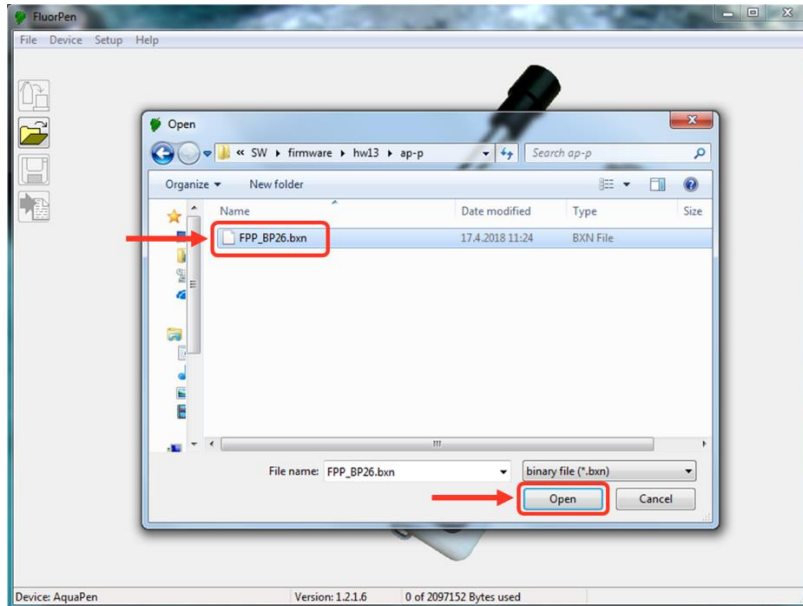

Fig. 19 Select .bxn file.
- Find: Binary file (with the extension .bxn) (Fig. 19).